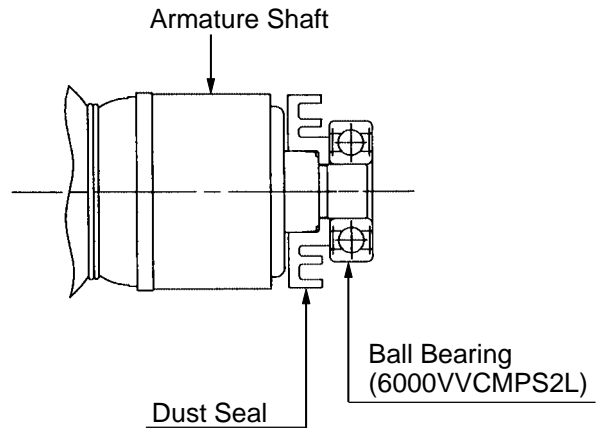

Fig. 13
(1) Generously lubricate the teeth of Gear [20] <20> (20) and Pinion [7] <7> (7) with grease. Rub grease onto the teeth with your fingers so that the grease reaches each tooth bottom. Note that under-lubricated Gear [20] <20> (20) and Pinion [7] <7> (7) may wear at a faster rate.
(2) When replacing the Armature [13] <13> (13) and the Ball Bearing 6000VVCMP2L [44] <43> (44) on the commutator side, press inward on the Dust Seal [43] <42> (43) while taking care of its direction until the end face of the Dust Seal [43] <42> (43) hits against the butting surface of the Armature [13] <13> (13) and make sure that the Dust Seal [43] <42> (43) cannot turn freely. (See Fig. 13.)